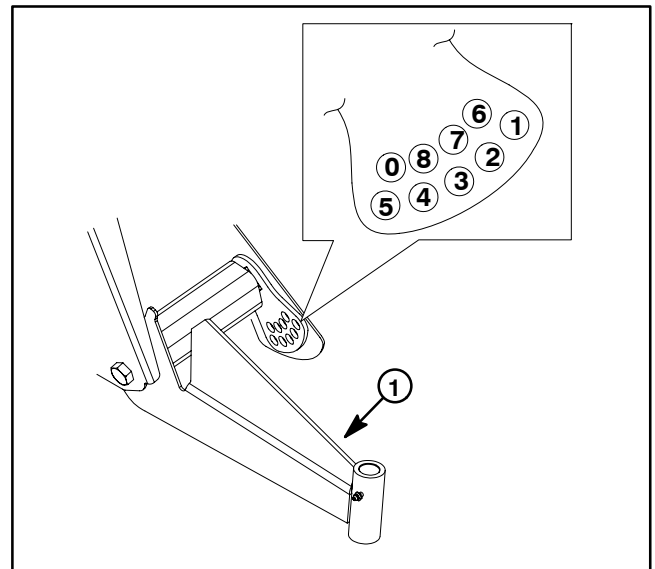

Figure 9
4. Remove lock nut (item 6) and travel limiting bolt (item 9) from the frame.
**NOTE:** To aid reassembly, note hole location of ride height adjustment bolt in A–arm (Fig. 9).
5. Remove flange nut (item 5) and ride height adjustment bolt (item 1) from the adjustment pattern of the A–arm and frame.
6. Remove two centering bolts (item 8) and lock washers (item 7) securing the A–arm to the the frame. Lower A–arm from the frame.
1. Position A–arm to the frame. Secure A–arm to the frame with two (2) centering bolts (item 8) and lock washers (item 7). Do not tighten bolts.
**NOTE:** If A–arm is being replaced, look for number between 200 and 400 written next to the serial tag on the bottom of the replacement A–arm. This number should be used to identify the location of the ride height adjustment bolt (Fig. 9):
3. Install ride height adjustment bolt (item 1) and flange nut (item 5) into correct hole location.